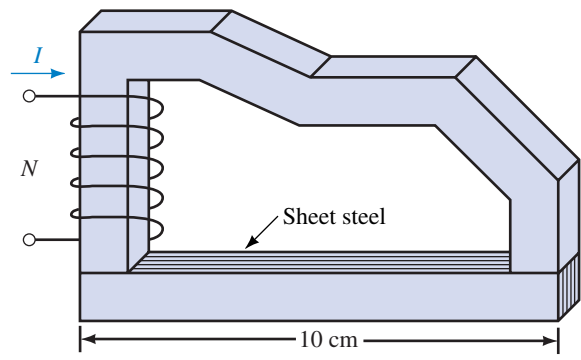

FIGURE 12-50
20. For the circuit of Figure 12-50, $\Phi = 141\ \mu\text{Wb}$ and $N = 400$ turns. The bottom member is sheet steel with a stacking factor of 0.94, while the remainder is cast steel. All pieces are $1\text{ cm} \times 1\text{ cm}$. The length of the cast steel path is 16 cm. Find current I .